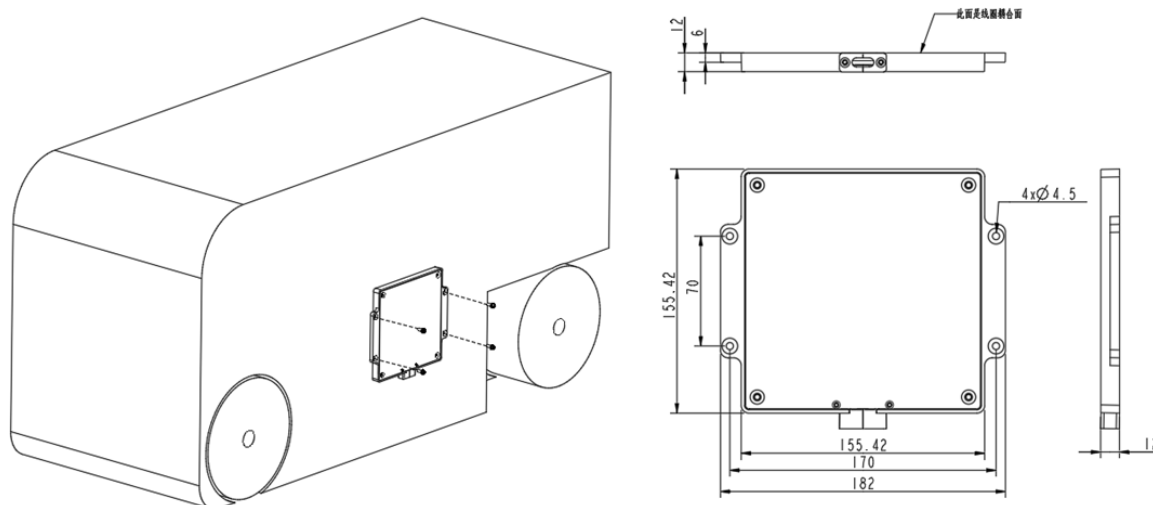

Fig 19 – Example installation on a vehicle (dimensional drawing, dimensional unit: mm)
1. Make sure that the zone around the coil is free of conductive objects (see Figure 19).
7. Observe the minimum radial distance in Figure 19 when laying the connection cable. For example, use a non-magnetic gasket to guarantee a minimum distance from a steel member or pipe.